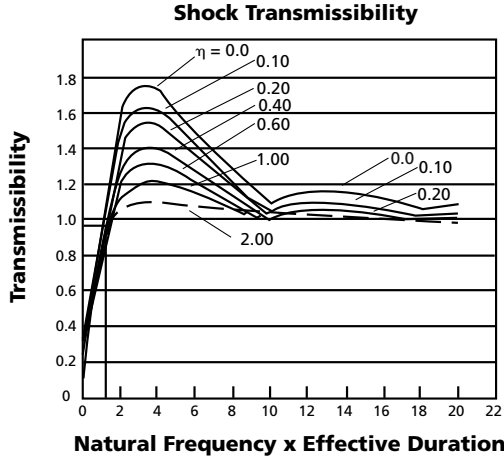
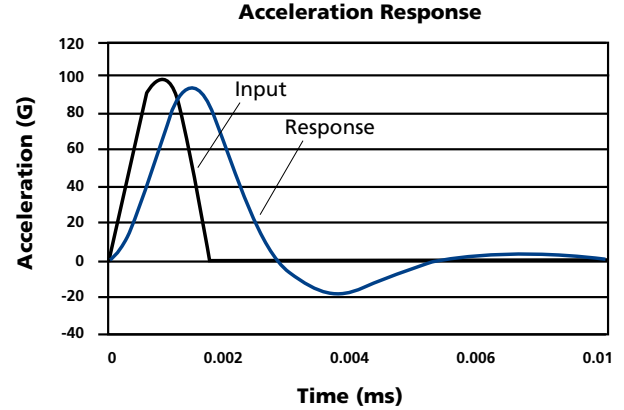

Figure 1
Figure 2
• Our example is a 1.5 lb hard drive isolated with four G-411-2 grommets at 100F. The shock input: Half Sine 100G @ 2ms. The shock input creates radial loading of grommets (z direction in Figure 2, Page 11). Therefore, we will utilize radial mount data for our stiffness calculation. Four grommets are used to support the hard drive (see Figure 1, Page 11).
- Transmissibility is just slightly less than one. Calculated time response (via computer algorithm) in Figure 2 confirms this. Often, this is quite acceptable where the designer wants to ensure that the system does not amplify shock.